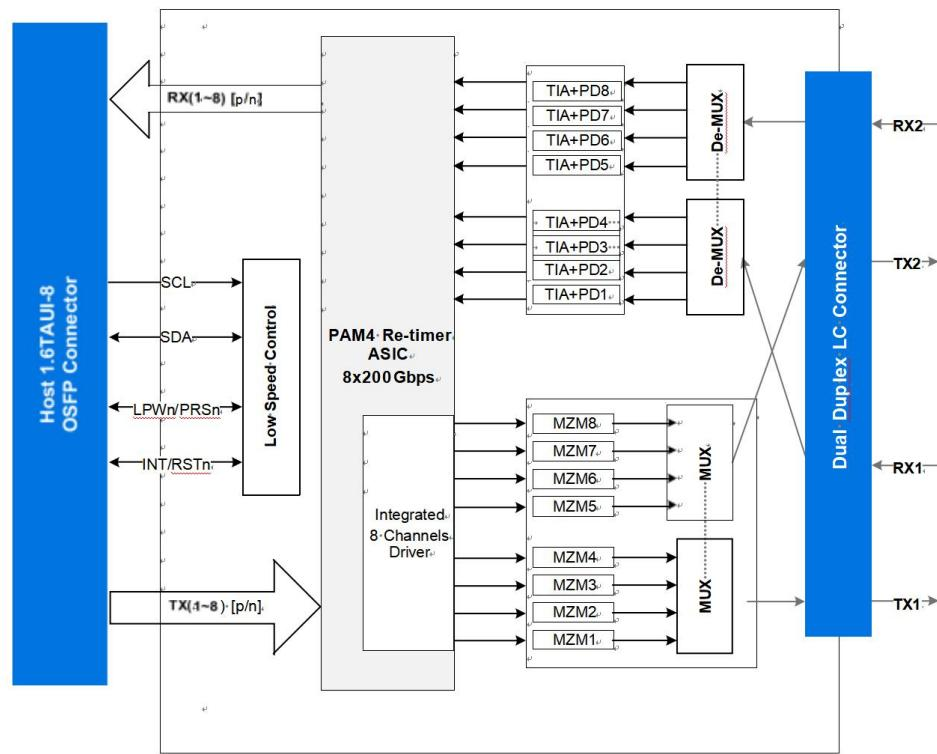

Figure 6 Transceiver Block Diagram
As shown in Figure6, the transmitter path of the transceiver contains an 8x200Gbps 1.6TAUI-8 electrical input with Equalization (EQ) block, integrated re-timer with high swing output, diagnostic monitors, single siphon PIC with 8 independent MZM modulator and 2 CWDM MUX and 4 CW CWDM lasers. The integrated electrical re-timer converts 8 channels of 100 Gbps (PAM4) electrical input data to 8 channels of 100Gbps (PAM4) high output swing optical signals. The siphon PIC modulate 8 channels of optical signal and transfer to 2 optical port. The transmitter complies with EN 60825 and CDRH Class 1 human eye safety compliance.
As shown in Figure6, the receiver path of the transceiver contains 4 PIN photodiodes, trans-impedance amplifiers (TIA), and 8x200G 1.6TAUI-8 compliant electrical output blocks. The PIN-TIA converts 8 channels of 200Gbps (PAM4) parallel optical signals to 8 channels of 200Gbps (PAM4) electrical output data.